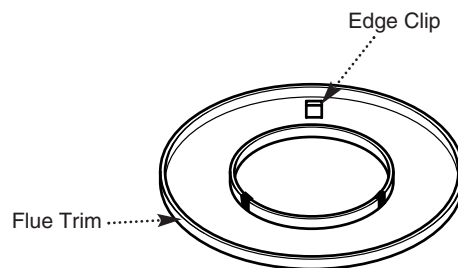

Fig. 51a
b) Take the three edge clips from the kit and fit them equi-spaced onto the inner flange of the trim (Fig. 51a).